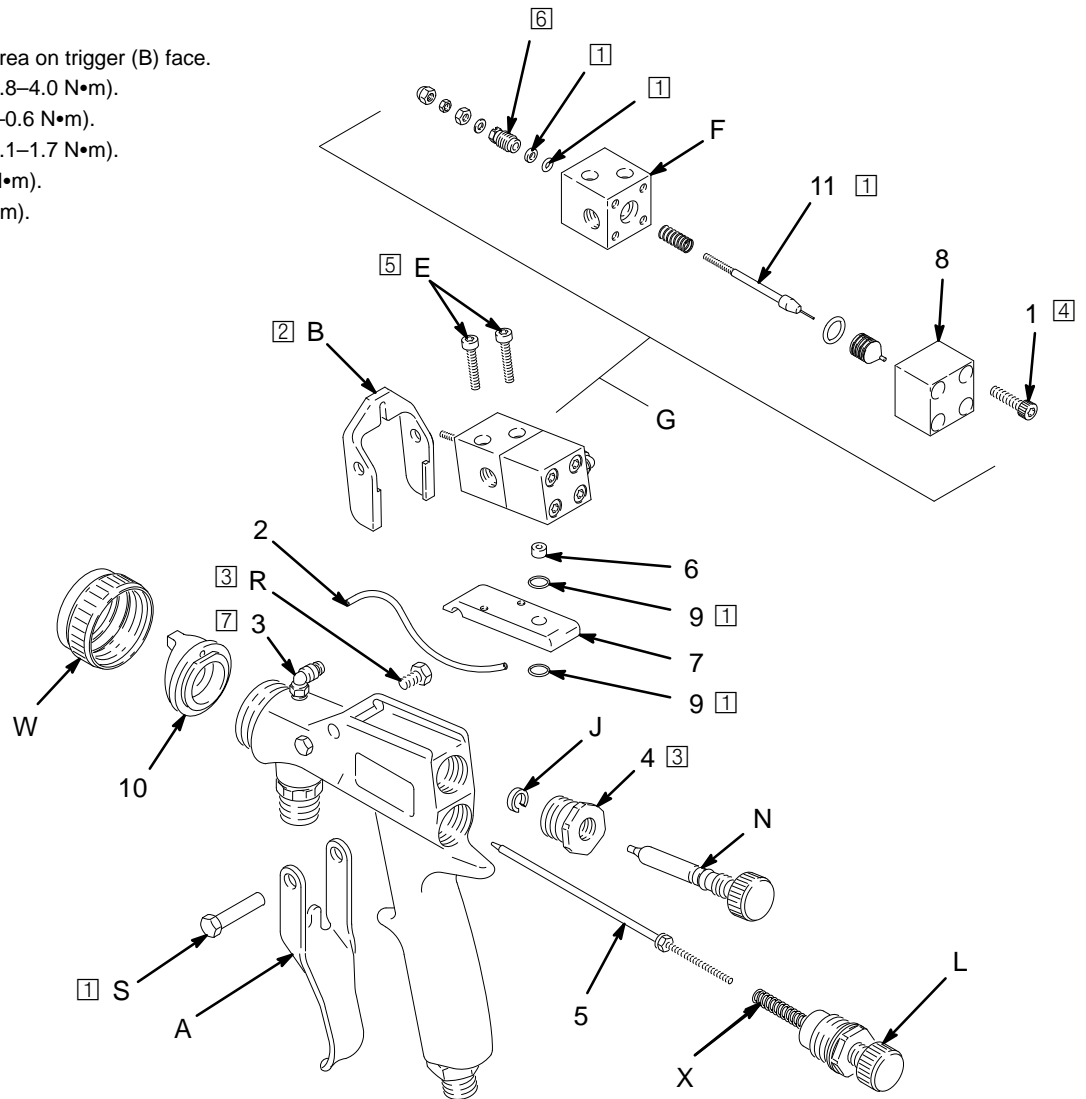

Fig. 3
NOTE: See Fig. 3 for torques and other assembly notes.
Includes items 1 to 12. Refer to Fig. 3, page 3.